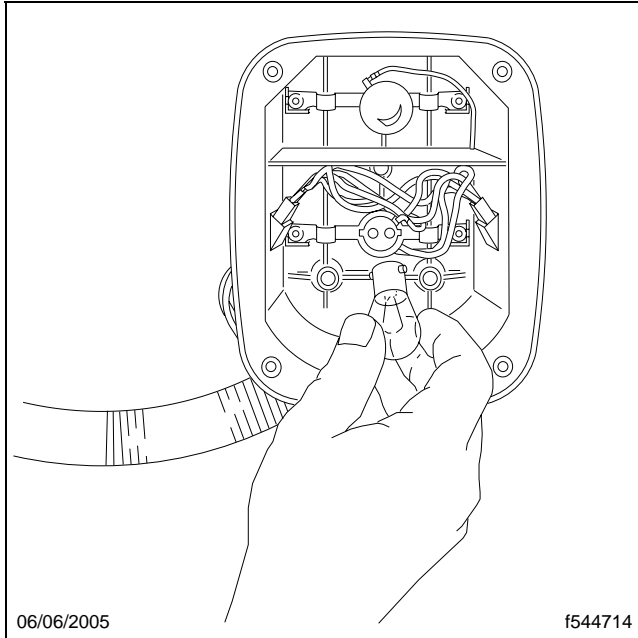

Fig. 4, Taillight Bulb Removal
2. Press in the bulb and turn it counterclockwise to release it from the socket. See **Fig. 4**.